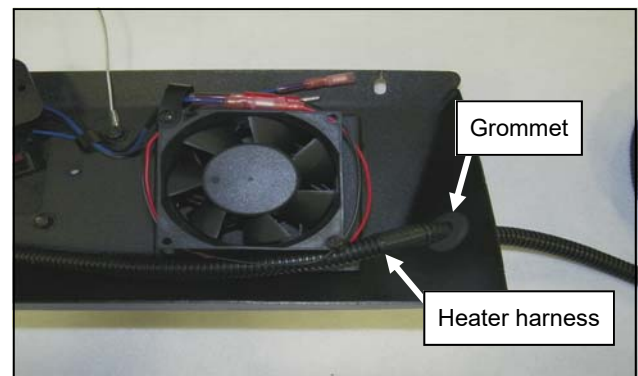

Fig. 3.2
- 3.2 Install the Heater harness onto the switch and route the harness to the right of the console. Remove the plug from the side of the console, feed the loom-covered leg of the harness through the hole and install the grommet in the side of the console. See figure 3.2.